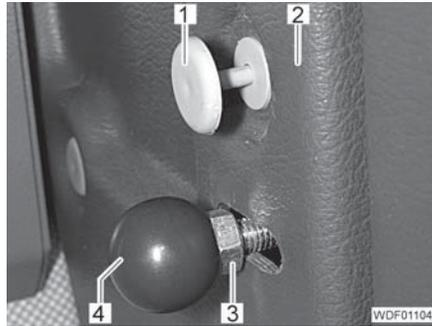

Fig. 385 Handle attachment
- Undo the nut (Fig. 385,3).
- Unscrew the handle (Fig. 385,4).
- Unscrew the nut (Fig. 385,3).
- Pull out the 4 expansion rivets (Fig. 385,1).
- Remove the cover (Fig. 385,2).
- Place on the cover (Fig. 385,2).
- Push in the 4 expansion rivets (Fig. 385,1).
- Screw the nut (Fig. 385,3) onto the bar.
- Screw the handle (Fig. 385,4) onto the bar and secure it with the nut.